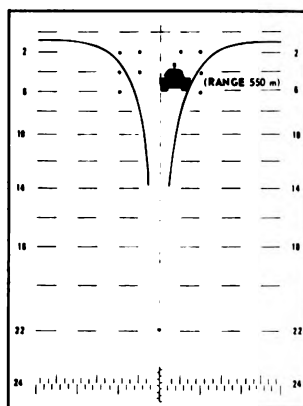

Figure 2.
(2) Tank is firing directly toward or away from the gun position (figure 2).